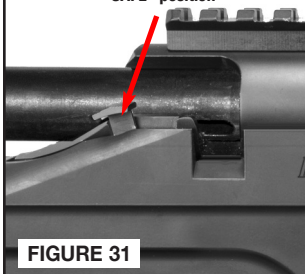

FIGURE 31
- Make certain that the manual safety lever is in the “SAFE” position (FIGURE 31).